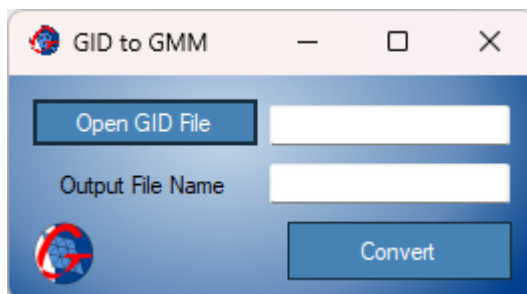

Figure 22: GID® to *Geo Meshing v6* dialog windows.
- **GID® to GM:** Opens a dialog window (shown in Figure 22) for converting GID® meshes files (\*.msh) to *Geo Meshing v6* files (\*.gmm). This program only works with 2D meshes exported from GID®. More information can be obtained at [www.gidhome.com/](http://www.gidhome.com/).